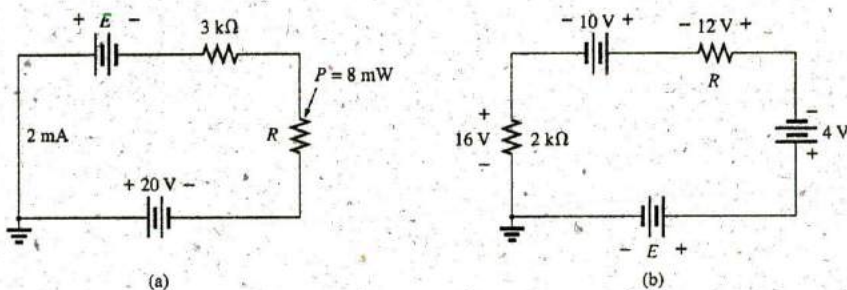

FIG. 5.104
20. Find the unknown voltage source and resistor for the networks in Fig. 5.104. First combine the series voltage